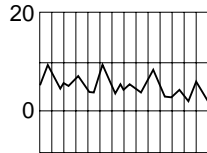

Fig. 3
12. Because of the potential for inadvertent arterial placement, verify venous access via a wave form obtained by a calibrated pressure transducer (refer to Fig. 3).